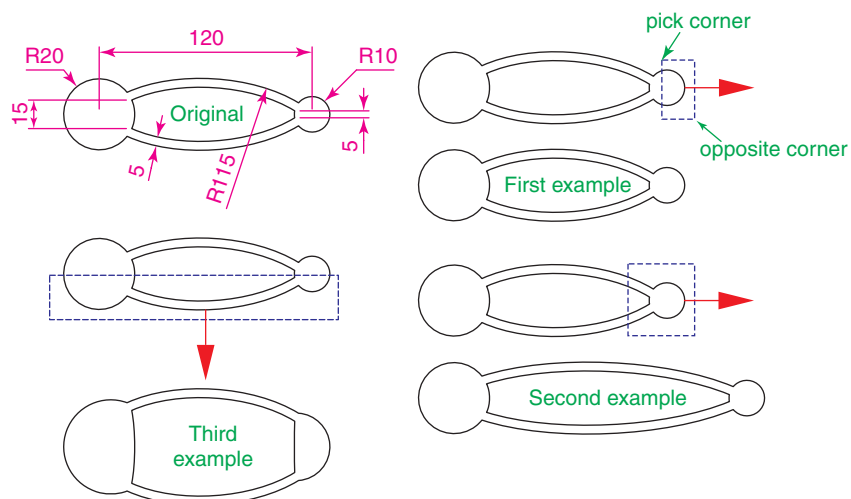

Fig. 5.34 Examples – **Stretch**
Examples – Stretch (Fig. 5.34)
1. Construct the drawing labelled **Original** in Fig. 5.34, but do not include the dimensions. Use the **Circle**, **Arc**, **Trim** and **Edit Polyline** tools. The resulting outlines are plines of width = 1. With the **Copy** tool make two copies of the drawing.
In each of the three examples in Fig. 5.34, the broken lines represent the crossing windows required when **Stretch** is used.